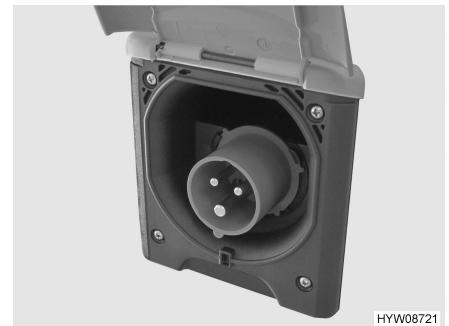

Fig. 48 240 V connection on vehicle
- Open the cover of the 240 V connection on the vehicle (Fig. 48) and insert the plug connector. Ensure that the detent of the spring-mounted pivoting cover is engaged in position.